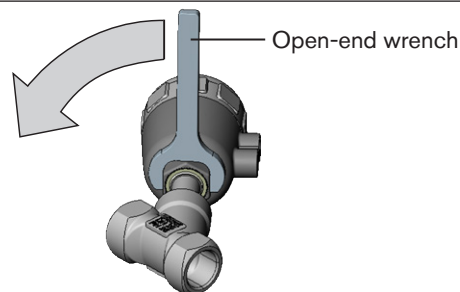

Fig. 15: Rotating with open-end wrench
- ▶ Rotate the actuator module in the specified direction only (see "Fig. 15").